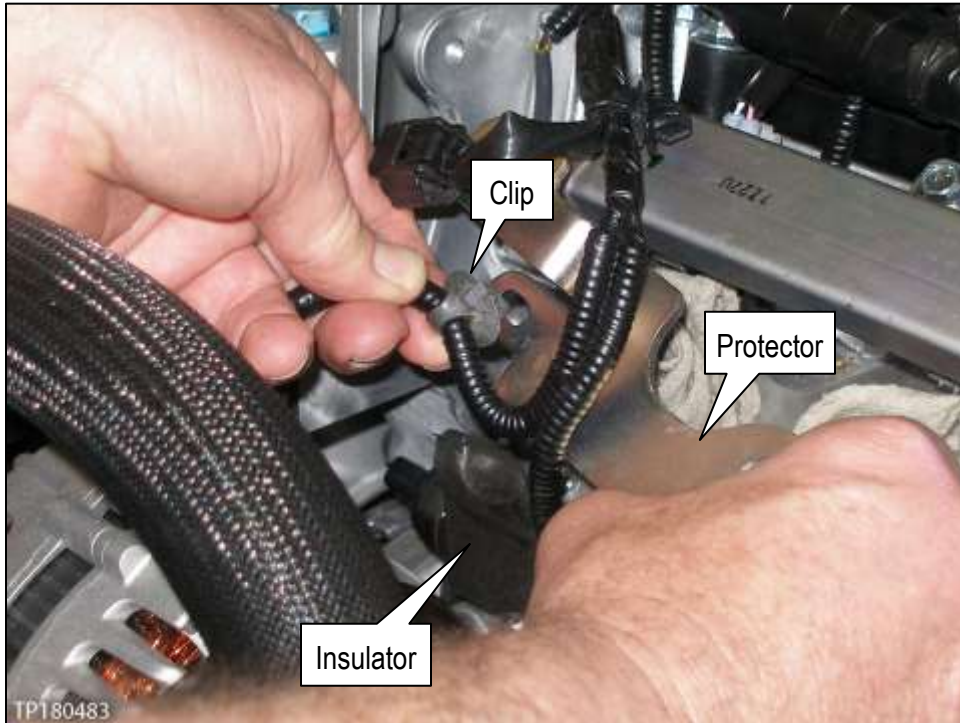

Figure 58
- b. Position the high pressure fuel rail protector as shown in Figure 58, and then fasten the first clip.